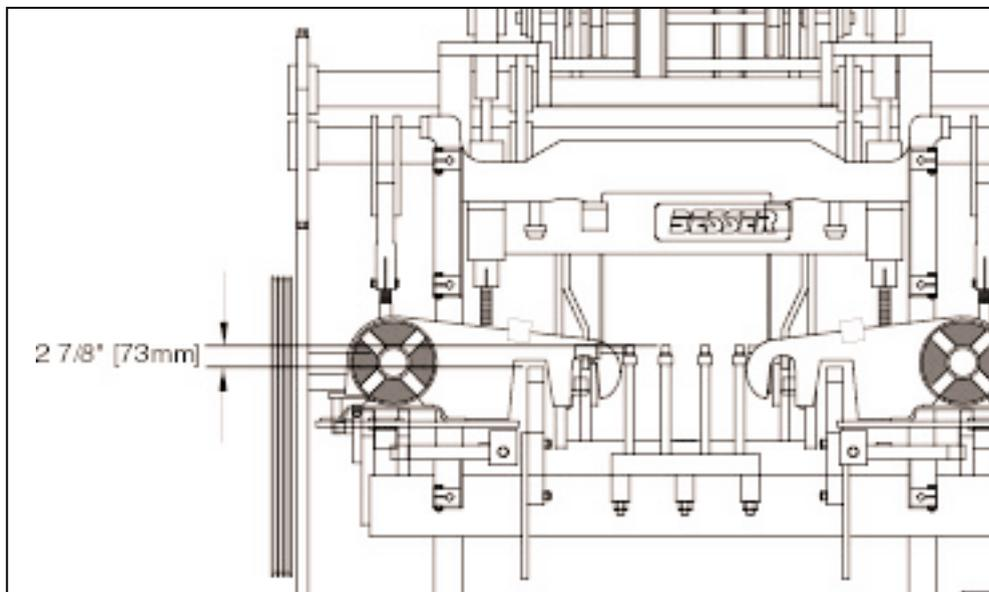

Figure 4.13 PALLET RECEIVER RUBBERS POSITION.
- 4.1.6 Adjust the pallet receiver frame so that the pallet receiver rubbers are **2 7/8" [73mm]** above the mold throat (see figure 4.13).